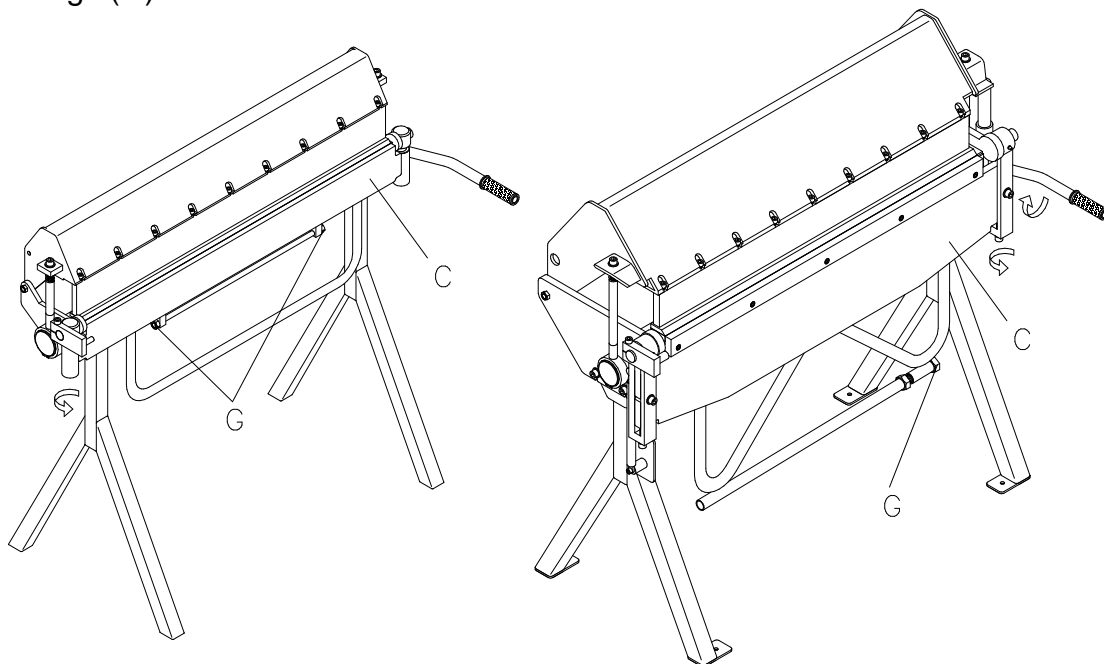

Fig.: 2.3
It may be necessary to readjust the bending member (C) (see *fig.: 2.3*) by tightening/loosening the adjustment screws at both sides of the machine and by tightening the presettings (G) on the member.